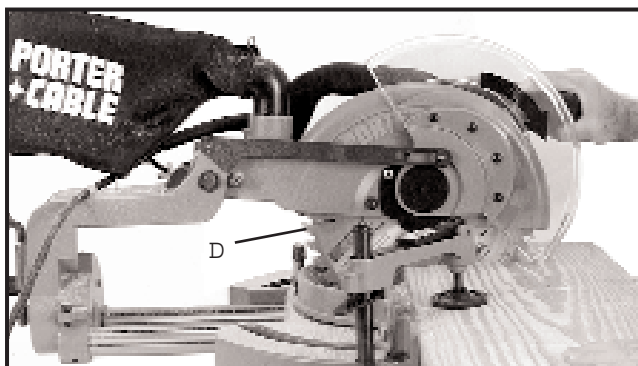

Fig. 43
5. Fig. 43 illustrates the completed cut. Release the switch trigger and keep the cuttinghead in the down position until the blade (D) comes to a complete stop.